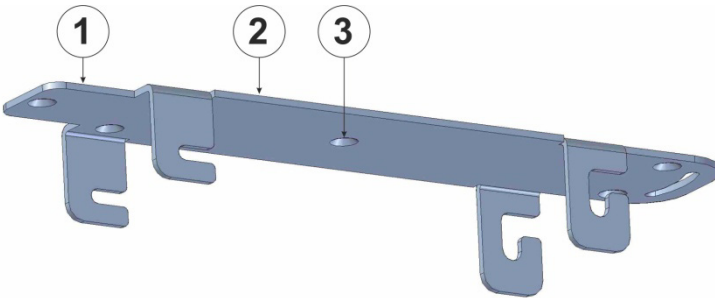

Figure 6: Vertical Mount Bracket
Figure 6 shows the vertical mount bracket for a single **K-Able Box**.
1. Position the vertical-mounting bracket (see Figure 6) such that the cable exits in line with the TBUS insert.
1. Position the multiple mounting bracket (see Figure 6) in line with the **TBUS** insert such that when the cables are extended they are in line with the **TBUS** inserts.